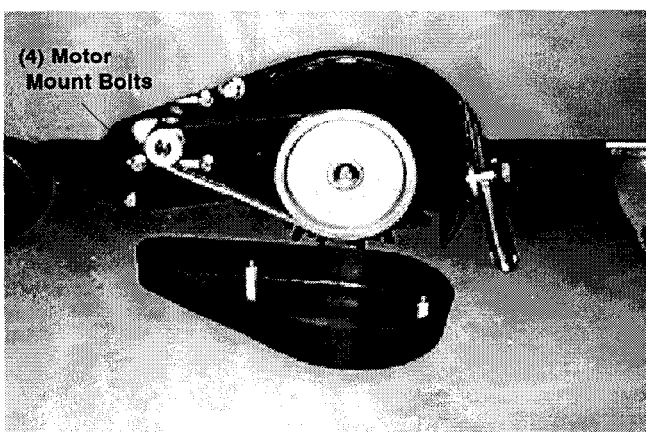

FIG. 30.
- Remove belt guard (two screws). (Figure 30)
- To tighten or replace belt, loosen 4 brush motor mount bolts. If worn, replace belt. (Figure 30)